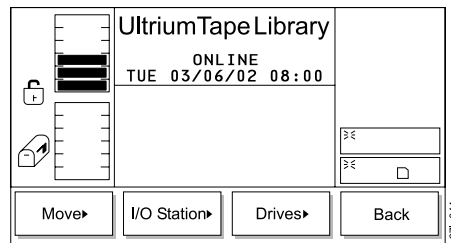

Figure 190. Command Menu
1. From the Main Menu's initial screen, press the button below the **Command** softkey. The Command Menu displays (see Figure 190).